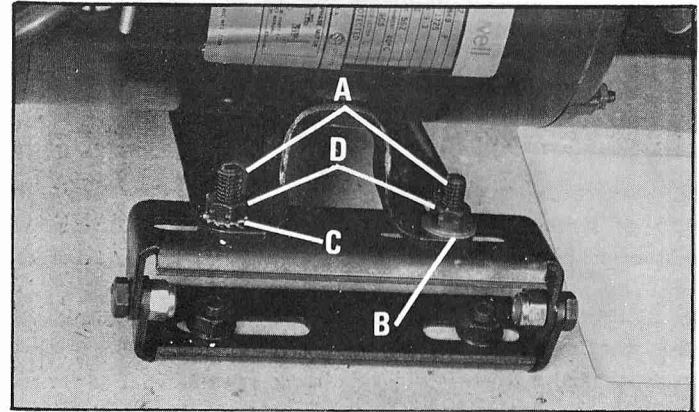

Fig. 8
Bolt motor base plate to hinge bracket using two 5/16-18 x 1" carriage bolts (A), one 5/16" flat washer (B), one 5/16" external tooth lockwasher (C) and two 5/16"-18 hex nuts (D), as shown in Fig. 8. **IMPORTANT:** The proper grounding of the motor to prevent electric shock hazard, depends on the use of the external tooth lockwasher (C), as shown.